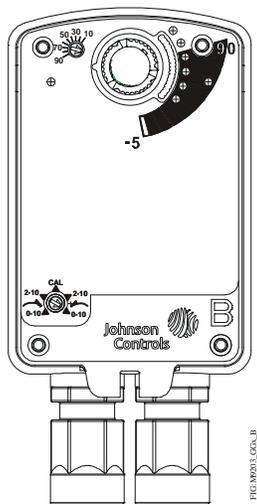

Figure 3: Actuator Side B
For CW spring return direction, mount the actuator to the damper shaft so that Side B of the actuator is away from the damper as illustrated in Figure 3. With power applied, the actuator drives CCW from the 0° position and spring returns CW.
The M9203-xxB-2(Z) models include one integral auxiliary switch with a switch adjuster accessible on either face of the actuator. (See Figure 2 and Figure 3.) The factory setting for the Auxiliary Switch is 11° closing (relative to the 0 to 90° rotation range as printed on the product label). See the Technical Specifications table for the auxiliary switch ratings.